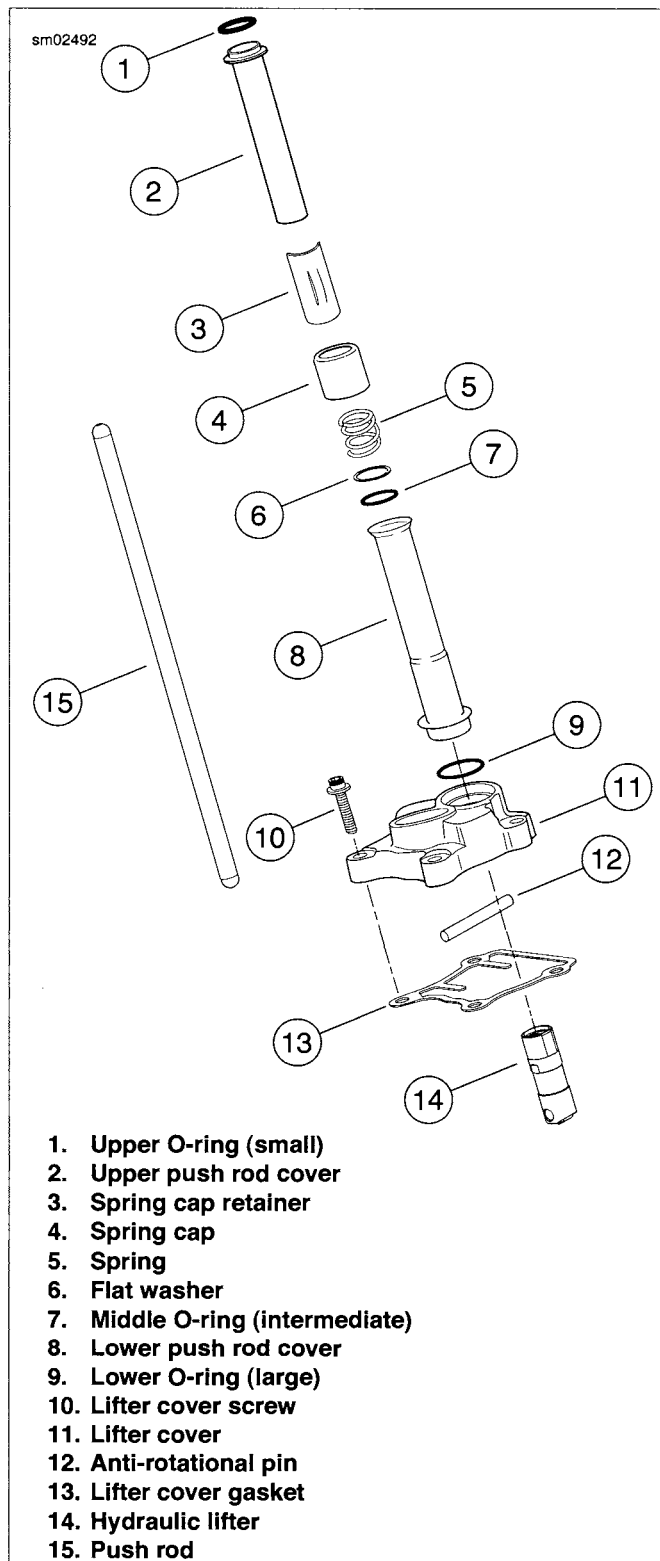

Figure 3-95. Push Rods, Lifters and Covers
See Figure 3-95. With the exception of the lifter covers, all parts should have been disassembled and marked during the removal procedure. Disassemble the lifter covers as follows:
1. See Figure 3-95. Scrape old gasket material from the lifter cover (11) flange. Old gasket material left on mating surfaces will cause leaks.
2. With the exception of the hydraulic lifters (14), clean all parts in a non-volatile cleaning solution or solvent. Verify that the o-ring seats and contact surfaces of the push rod covers (2, 8) are completely clean.